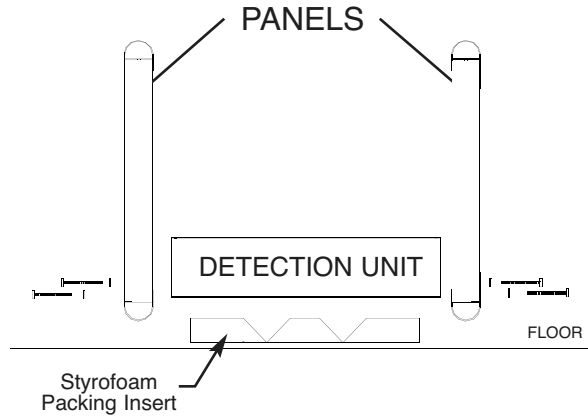

FIGURE 2-2
3. Place any one of six packing inserts on floor as shown in Figure 2-2. Lay detection unit (with touchpad panel facing down) on packing insert. Connect detection unit to panels A and B using four screws and finishing washers. Do not tighten!